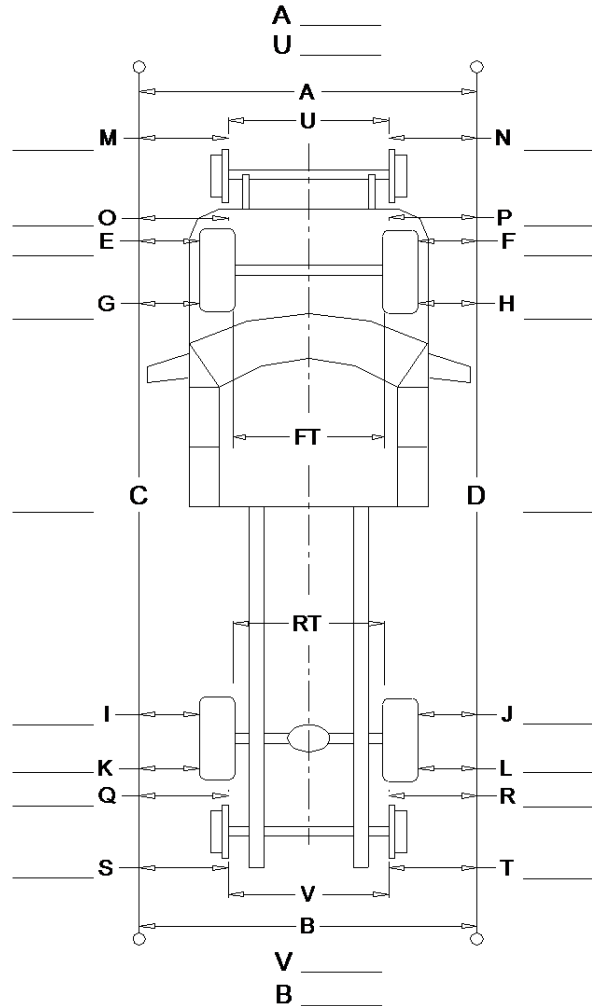

Figure 3-7
2. Establish parallel reference lines on each side of vehicle as shown in Figure 3-7.